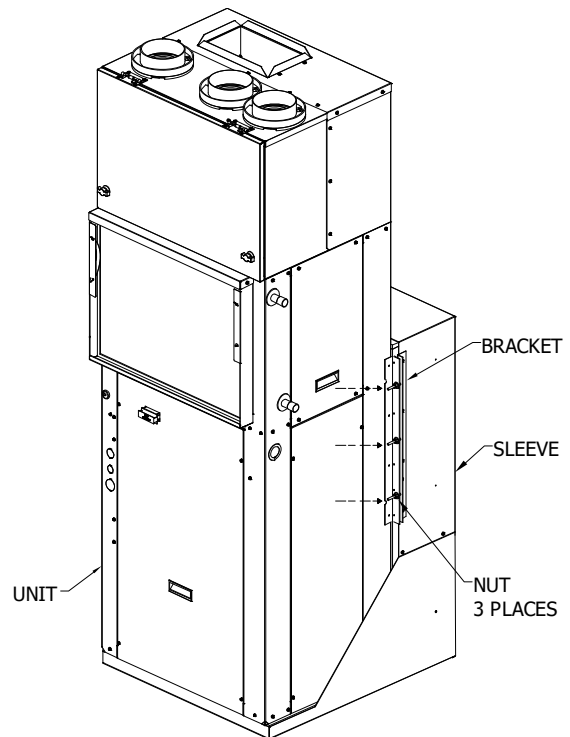

FIGURE 13 - Wall Sleeve Seal
9. After the seal is inspected, lift the unit onto the base of the sleeve and slide the unit forward to engage the seal. The unit uses locking brackets with weld studs. Align the unit to the bracket on the sleeve. Tighten down the unit until there is a tight seal with the sleeve. See **FIGURE 13 - Wall Sleeve Seal**.